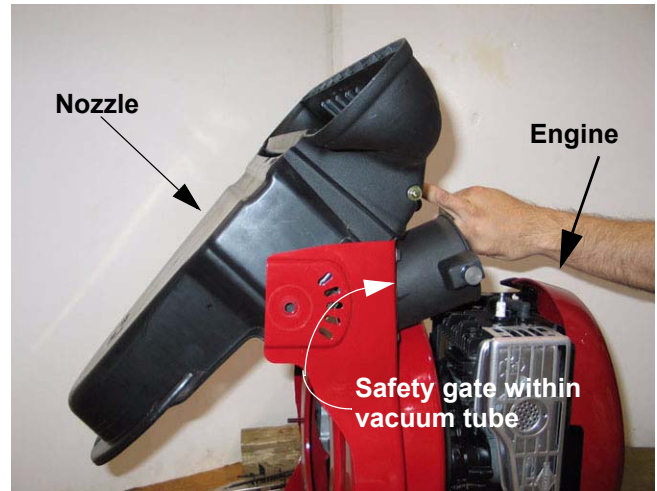

Figure 4.9
- 4.9. Tilt top of black plastic nozzle toward the engine to remove. This will allow the safety gate to pass by the hose opening freely. See Figure 4.9.